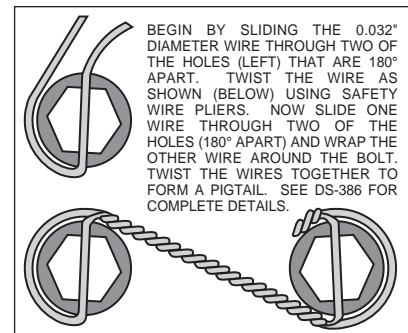

Figure 3. Safety Wire Diagram
- The caliper mount bracket assembly (1) should be installed first with clean, dry threads on the mounting bolts. Install the bracket (1) on the inboard side of the hub by sliding bolt (2) through washer (3). Place two shim washers (4) between the bracket (1) and the mounting ears. The bracket must tighten squarely against the inboard side of the caliper mount ears on the upright. Inspect for interference from casting irregularities, machining ridges, burrs, etc. Later, after the caliper, pad, and rotor alignment has been checked, and any necessary shims have been put in place, the mounting bolts should be coated with red *Loctite*® 271 and torqued to 47 ft-lbs.
- With the larger I.D. side of the rotor (6) facing away from the hat (7), bolt rotor (6) to hat (7) through the backside of the rotor using washers (8) and bolts (9). Using an alternating sequence, apply red *Loctite*® 271 to the threads and torque bolts to 140 **in-lb**. For an added measure of security, the bolts may be safety wired using standard 0.032 inch diameter stainless steel safety wire as shown in Figure 3. Please refer to Wilwood's data sheet DS-386 (available at [www.wilwood.com/Pdf/DataSheets/ds386.pdf](http://www.wilwood.com/Pdf/DataSheets/ds386.pdf)) for complete safety wire installation instructions.